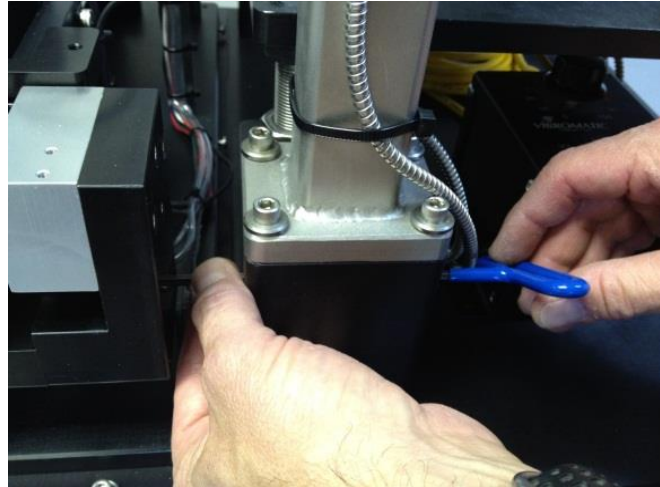

Figure 2.5.2
- With the cover off, using a 4mm hex wrench loosen the four 5mm screws holding the jaws into the block. *Figure 2.5.2*